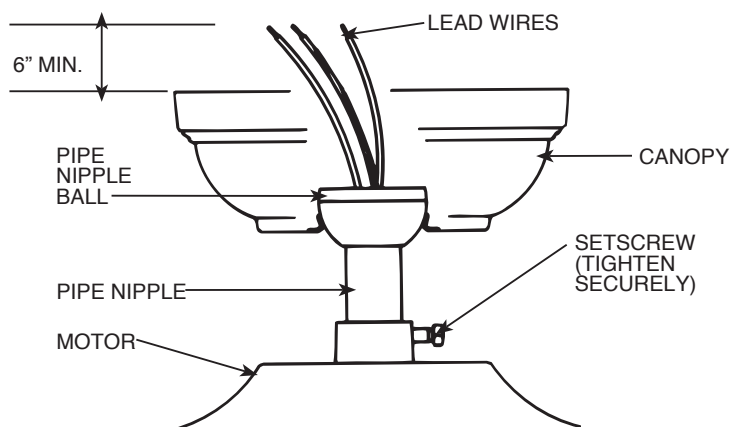

Figure 5B
A. Insert pipe nipple through canopy and feed wires from top of motor through pipe nipple. Screw pipe nipple into fan until tight (at least 4-1/2 turns). The setscrew locking the pipe nipple to motor must be tightened very securely. See Figure 5B. Failure to tighten screw could result in fan falling.